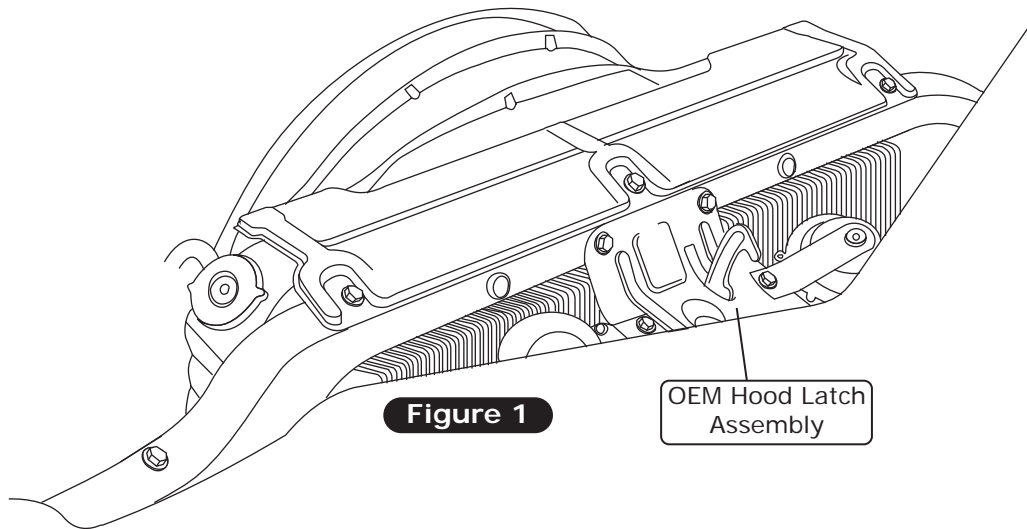

Figure 1
5. Remove the OEM hood latch assembly (See Figure 1, below).